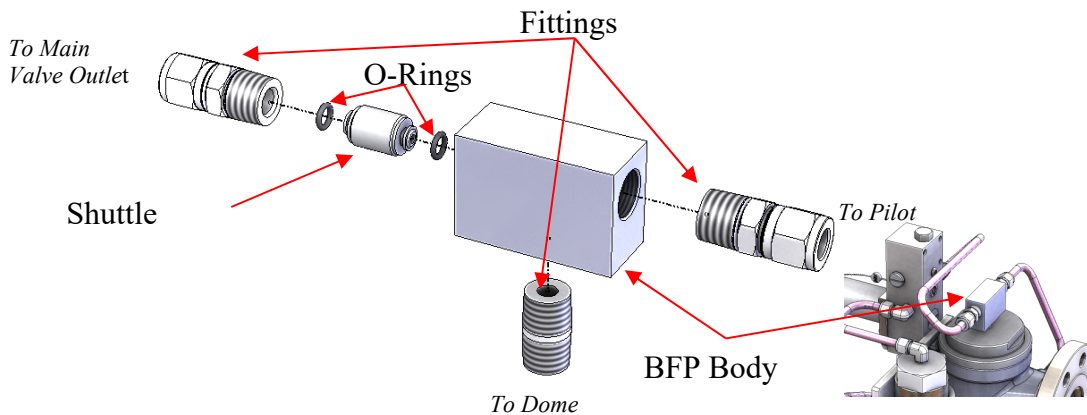

Figure 33: Backflow Preventer (Liquid Service)
- d) Remove the fittings from the BFP body. See Figure 33.